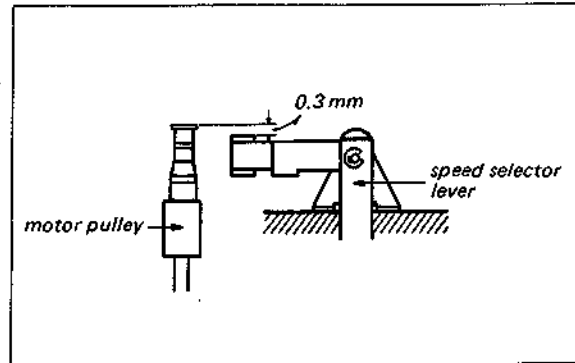

Fig. 4-1. Motor pulley height adjustment
4. Adjust the height of the motor pulley so that the top of the motor pulley is 0.3 mm higher than the top edge of speed selector lever as shown in Fig. 4-1.